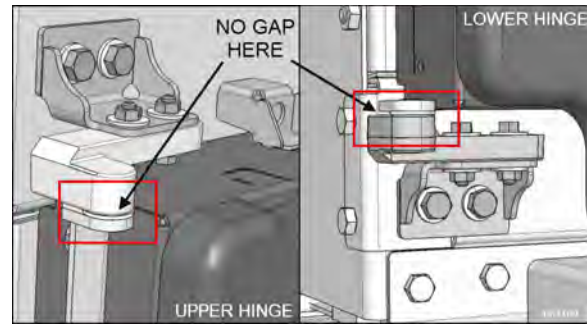

FIGURE 41: SHROUD HINGES INSTALLATION
- There should be no gaps between the hinge pivot point and the plastic bushing (upper & lower hinges Figure 41).